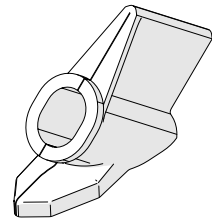

Fig. 26 - Loom installation tool
- ▶ The loom installation tool (*Fig. 26*) is used for setup of the scanner's sleeving.